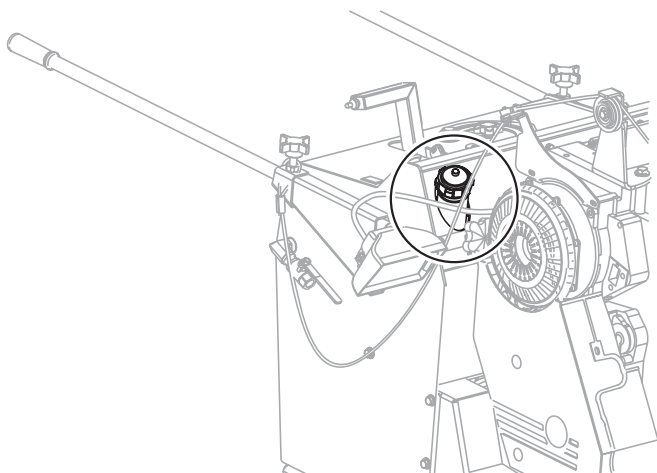

Figure 22. Fuel Gauge
1. Determine if the engine fuel is low. (Figure 22)